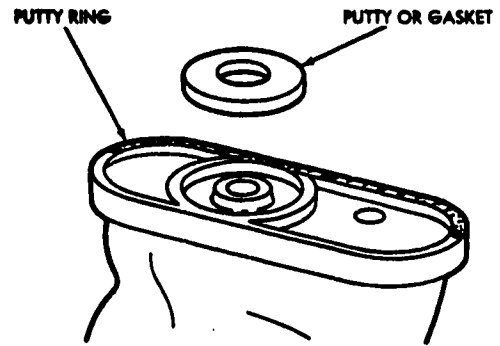

Fig 2-8. Placing putty on base of water closet.
- Turn the water closet upside down and place one roll of putty completely around the rim, and place a wax seal completely around the discharge opening or horn (fig 2-8). Do this carefully, as it will insure a watertight and gastight seal. This is the most important part of the installation.